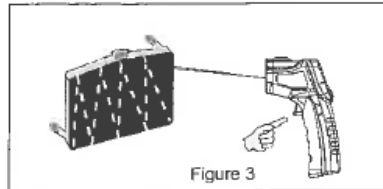

Figure 3
2. Locating a Hot Spot: (Figure 3)
To find a hot spot, aim the thermometer outside of interest, then scan across with an up and down motion until you locate the hot spot (Figure 3)